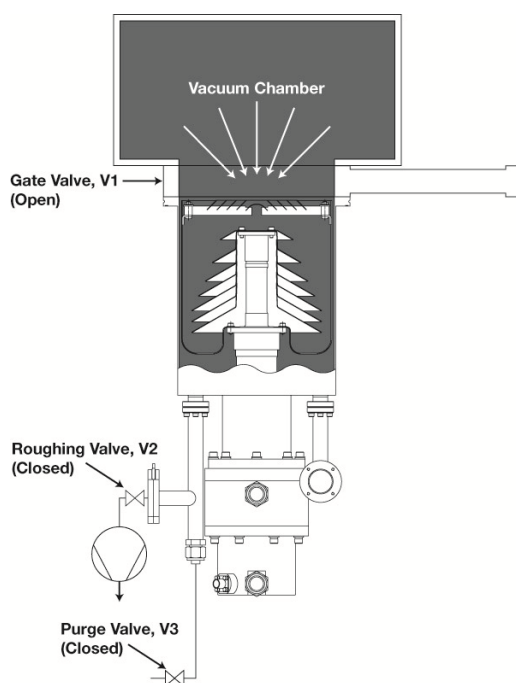

Figure 14 Cryopump Crossover
1. After the cryopump has cooled down to minimum temperature and the main vacuum chamber has been rough pumped to crossover pressure, open the gate valve. The cryopump is now operating in steady state. See Figure 14.